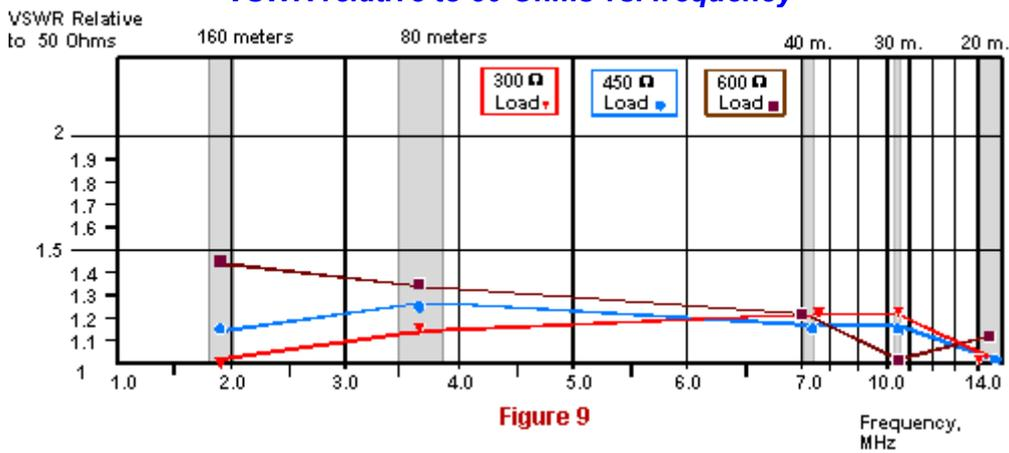

Figure 9
- A VSWR relative to 50 Ohms vs. frequency (Fig. 9),